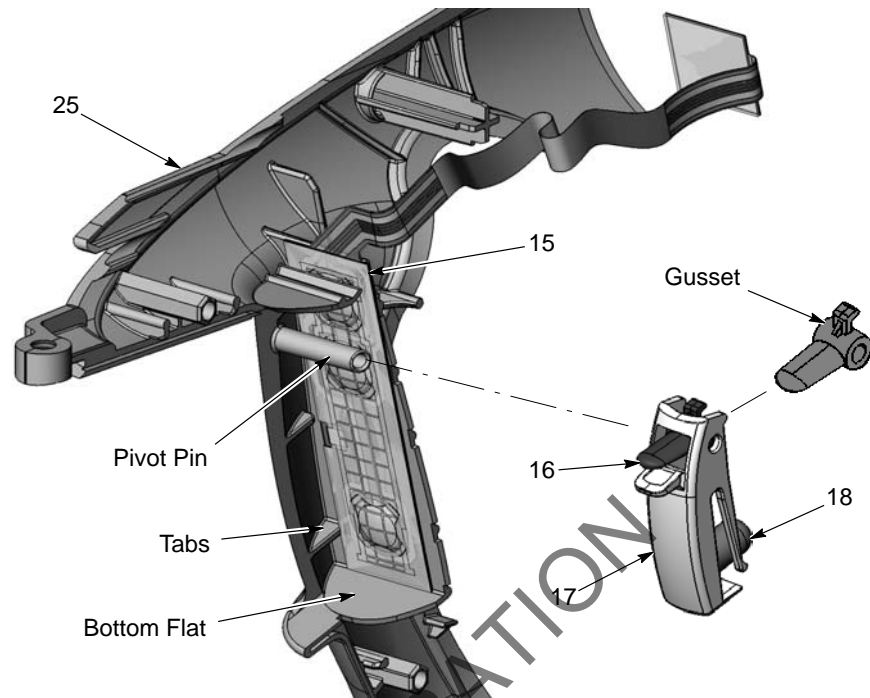

Figure 8 Trigger Switch Installation Steps 1-3
2. See Figure 8. Install the trigger switch (15) on the mounting flat of the right handle (25), up against the tabs on the side and the bottom flat. Press firmly on the switch to secure it in place.
3. Install the actuator (18) and settings trigger on the main trigger (17), with the settings trigger (16) gusset up. Slide the triggers over the trigger pivot pin on the right handle half.